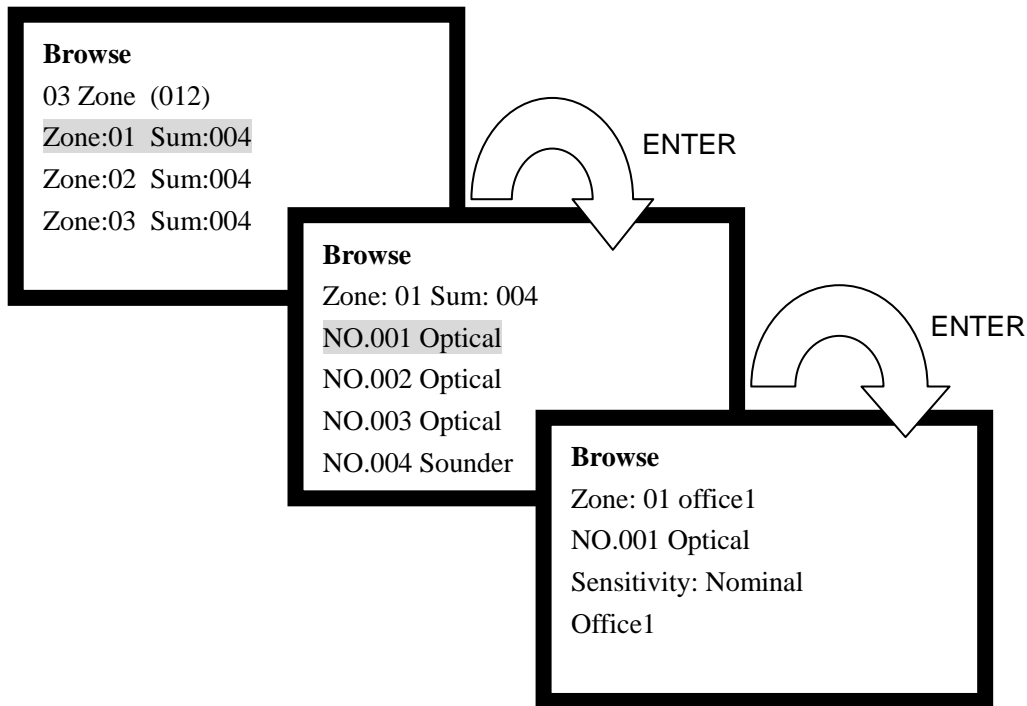

Fig. 6-8
(1) Zone display mode is shown in Fig. 6-8.